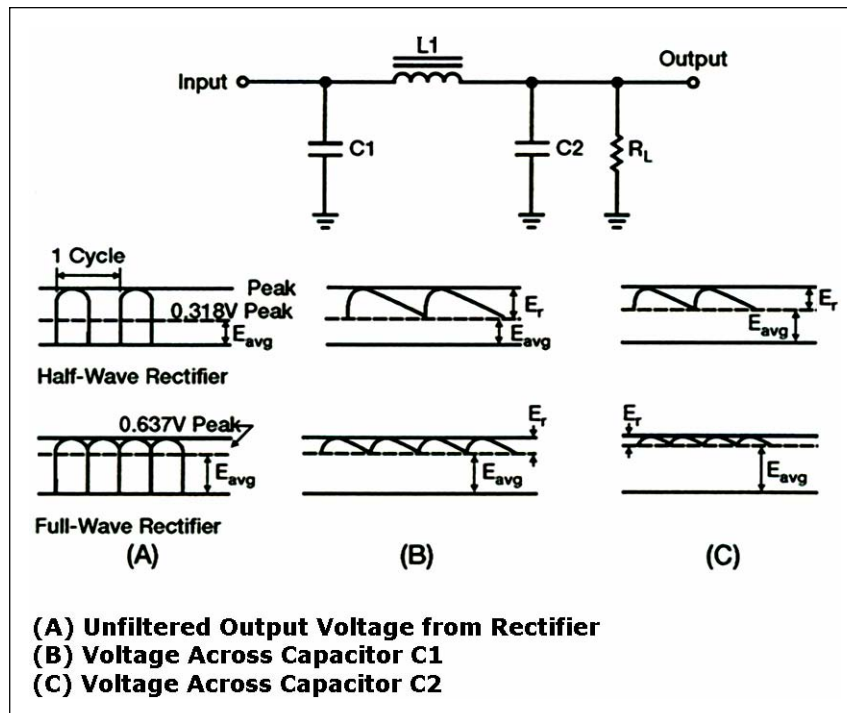

Figure 4-29. LC Filter and Waveforms
4-82. Figure 4-29 shows an LC capacitor-input filter and associated waveforms. Half-wave and full-wave rectifier circuits are used to provide the input. The waveforms shown in view (A) represent the unfiltered output from a typical rectifier circuit. Notice that the average value of output voltage (E_{avg}), indicated by the dashed lines, for the half-wave rectifier is less than half the amplitude of the voltage peaks. The average value of output voltage (E_{avg}) for the full-wave rectifier is greater than half, but is still less than the peak amplitude of the rectifier-output waveform with no filter connected across the output of the rectifier circuit (which results in unfiltered output voltage). The waveform has a large value of pulsating component (ripple) as compared to the average (or DC) component.
4-83. C1 reduces the ripple to a relatively low level (see Figure 4-29, view B). L1 and C2 form the LC filter that reduces the ripple even further. L1 is a large value iron-core inductor (choke). L1 has a high value of inductance and a high value of X_L that offers a high reactance to the ripple frequency. At the same time, C2 offers a very low reactance to AC ripple. L1 and C2 form an AC voltage divider and because the reactance of L1 is much higher than that of C2, most of the ripple voltage is dropped across L1. Only a slight trace of ripple appears across C2 and the load (see Figure 4-29, view C).